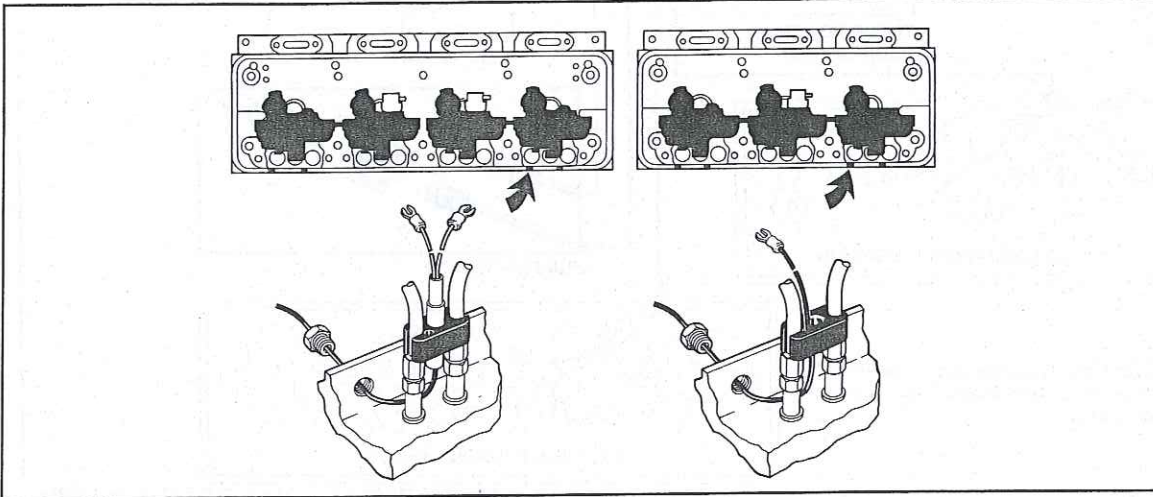

Fig. 37
1. Remove the plugs from the cylinder head locations as shown in Fig. 37.